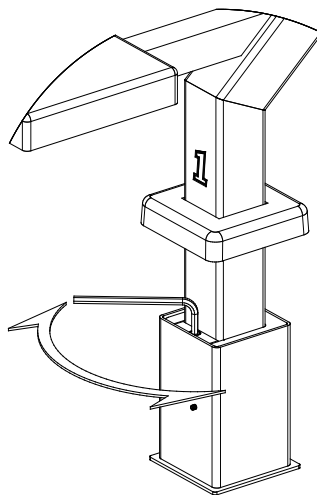

FIGURE 9
1. Loosen bolt using a ¼" ALLEN wrench, turning wrench in a counter-clockwise direction as seen from looking down. See **FIGURE 9**.